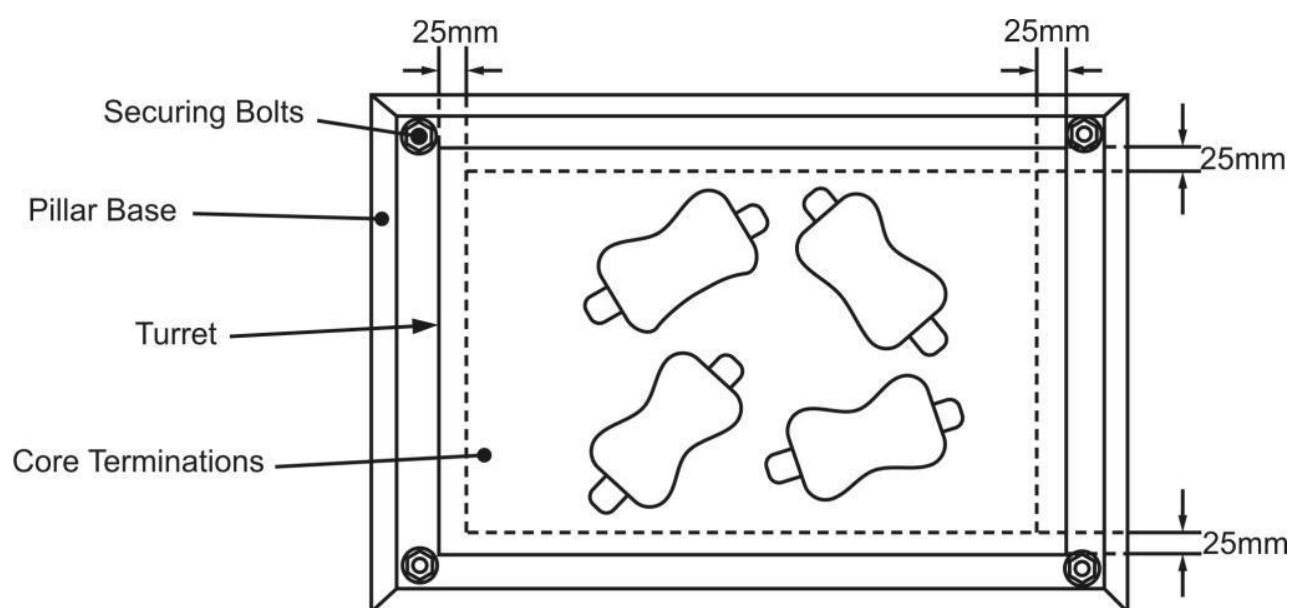

Figure 21.2 – Lug Cover Layout
10. The lug covers shall be arranged so that a minimum of 25mm clearance is maintained between any part of the lug cover and inner edge of the pillar base (Refer to Figure 21.2) allowing the turret to be fitted clear of the lug covers.